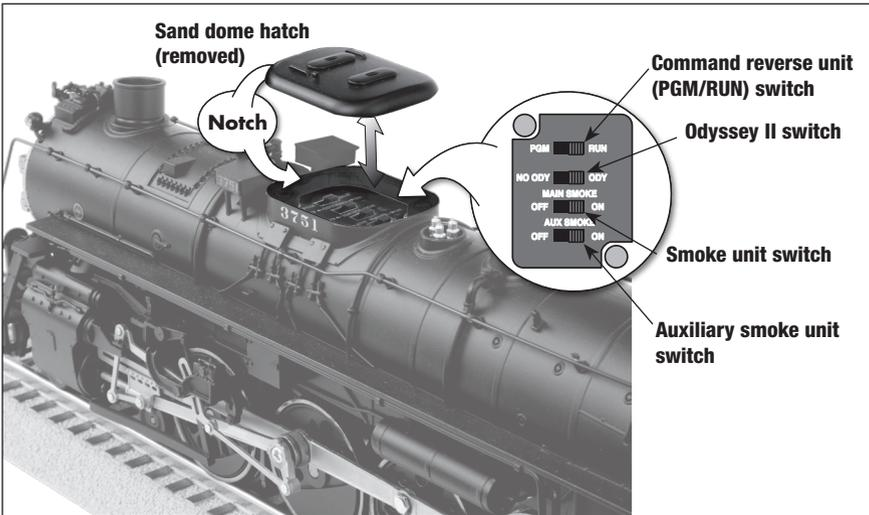

Figure 6. Locomotive switch locations
**We recommend that you operate your LEGACY locomotive with The Odyssey II Speed Control System turned on.** You may choose to operate your locomotive without speed control by placing the Odyssey II Speed Control System switch to the NO ODY (OFF) position. See Figure 6 on page 8 for the location of this switch.
If you prefer to operate your locomotive without smoke, locate the smoke unit switches under the sand dome hatch on the top of the locomotive and slide them to the OFF position. Refer to Figure 6 on page 8 for the location of the switches. Main stack smoke and the Whistle Steam effect are controlled independently.
The functions of your locomotive's switches are outlined below. Refer to Figure 6 for the location of the switches. *The instructions below are specific to this particular locomotive; note that available features (and switches) may differ from other locomotives and sets.*
1. Slide the program run switch on your locomotive to the PGM position. See Figure 6 on page 8.